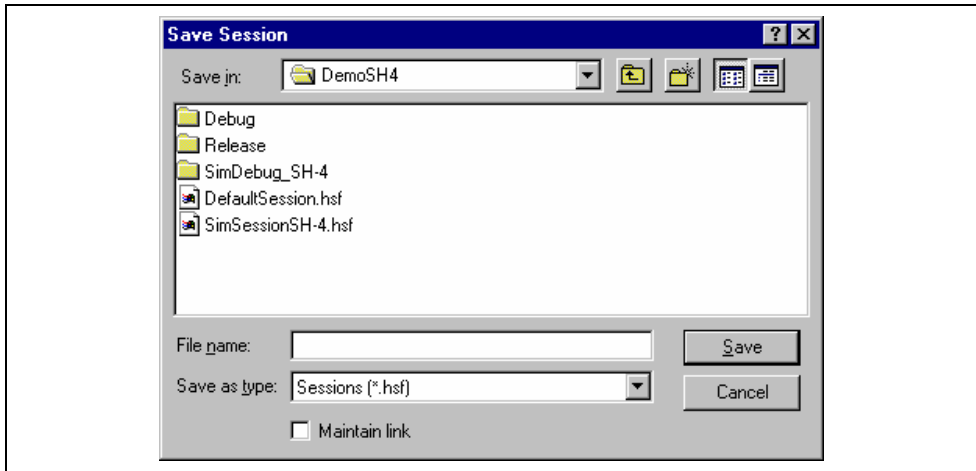

Figure 3.22 Save Session Dialog Box
3. Click the [Save as] button to display the [Save Session] dialog box (figure 3.22).